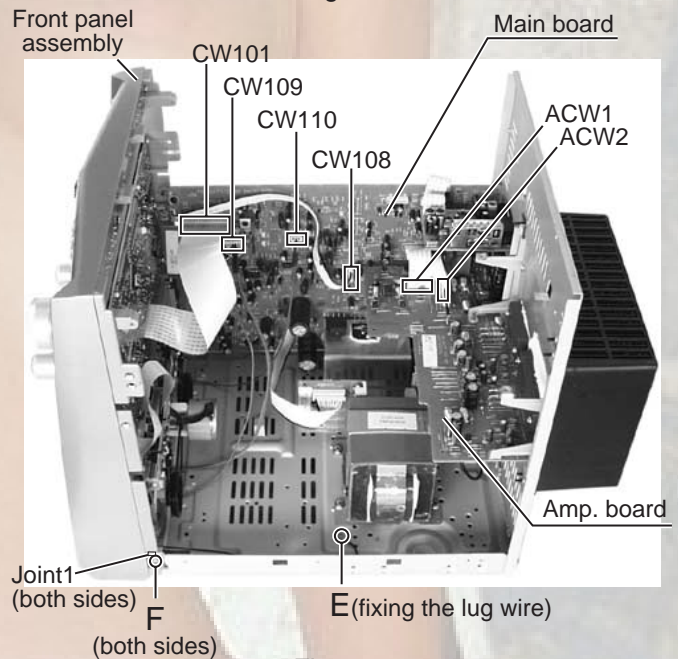

Fig.8
**■ Removing the front panel assembly (See Fig.8 to 10)**
(See Fig.8, 11 and 12)